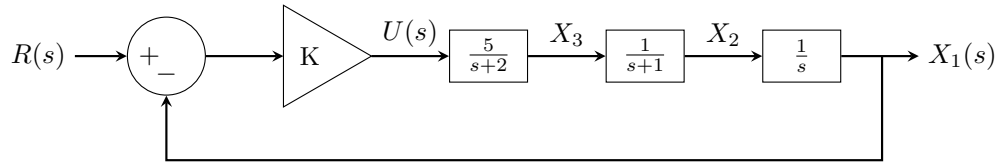

Figure 2: Closed-loop system with a proportional state feedback
- 4) Give the state-space equations of the system choosing the state variables x_1, x_2 and x_3 specified on Figure 2 for the open-loop system (Model 2).